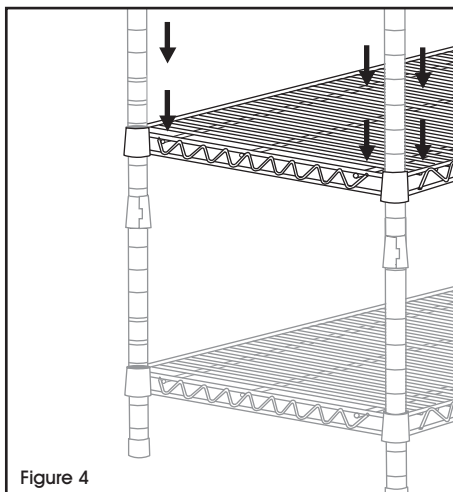

Figure 4
4. Determine the height of the next shelf, snap on supports then add and secure shelf. Repeat Step 4 to add the remaining shelves. (See Figure 4)